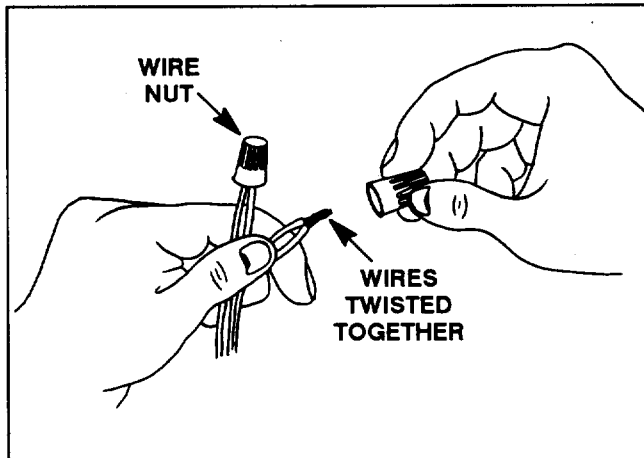

Figure 7
3. Twist a power pack cable wire and a main line cable wire together (Fig. 7).
4. Screw the wire nut tightly (clockwise) onto the twisted pair of wires (Fig. 7). Repeat steps 3 and 4 on remaining wires.